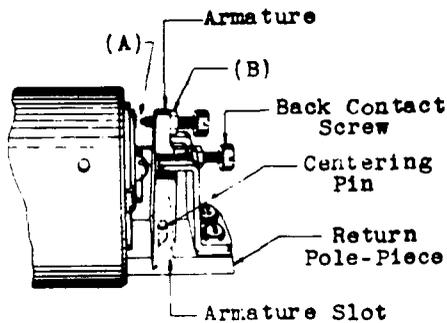

Fig. 4
2.08 Tightness of Lock Nuts - Fig. 4 (B) - The lock nuts shall be sufficiently tight to hold the screws in the adjusted position. Gauge by feel.
2.10 Contact Separation - Fig. 4 (A) - The separation between any pair of contacts normally open or between any pair of contacts that are opened when the relay is operated shall be